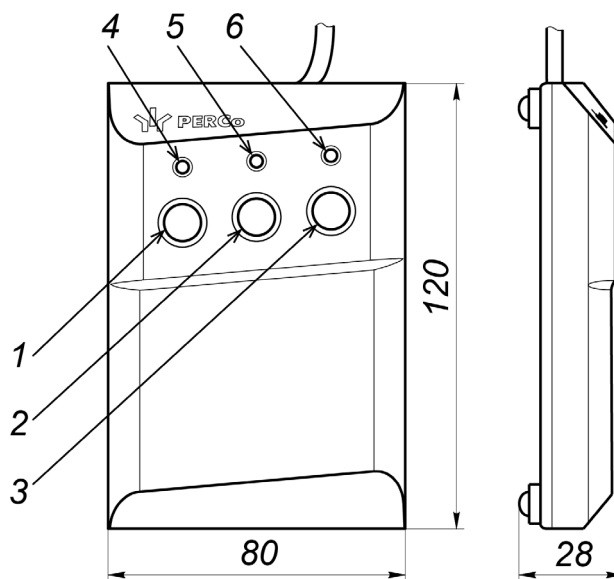

Figure 6. RC-panel overall view
The RC-panel (10) is designed as a small desktop device with a shock-proof ABS plastic case and is intended for setting and indicating operating modes when the turnstile is operated manually. The RC-panel overall view is shown in Fig. 6.